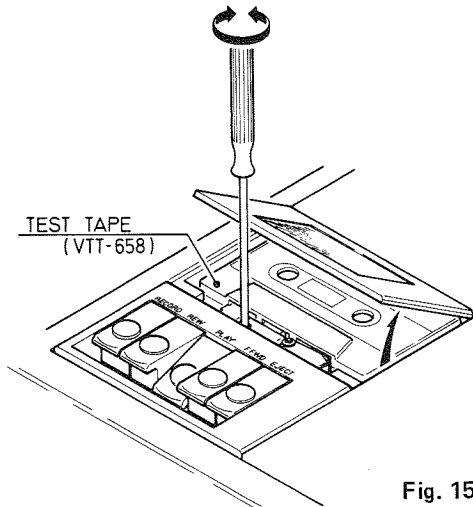

Fig. 15a
2. Mount VTT-658 (10kHz –15dB) test tape and set the unit in the PLAY mode. Adjust the head azimuth screw until the VTVM reading becomes maximum. (Fig. 15a, b)